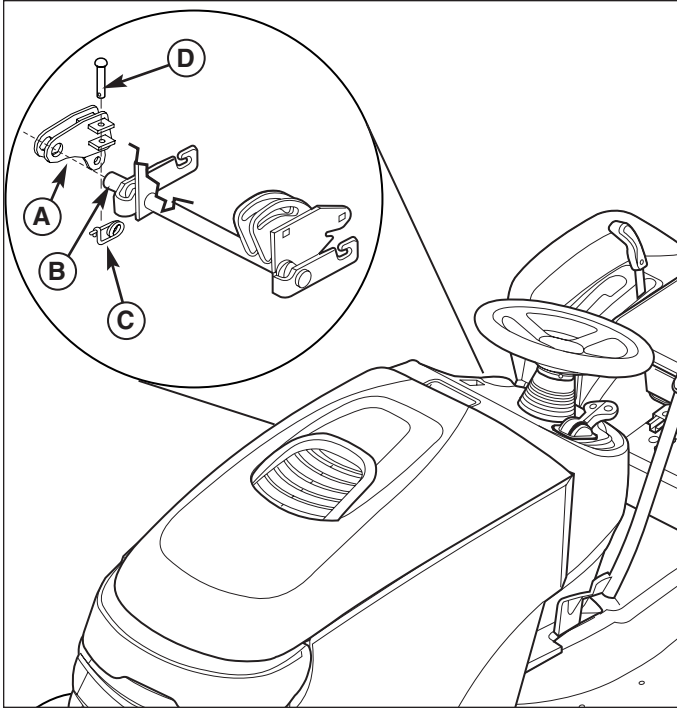
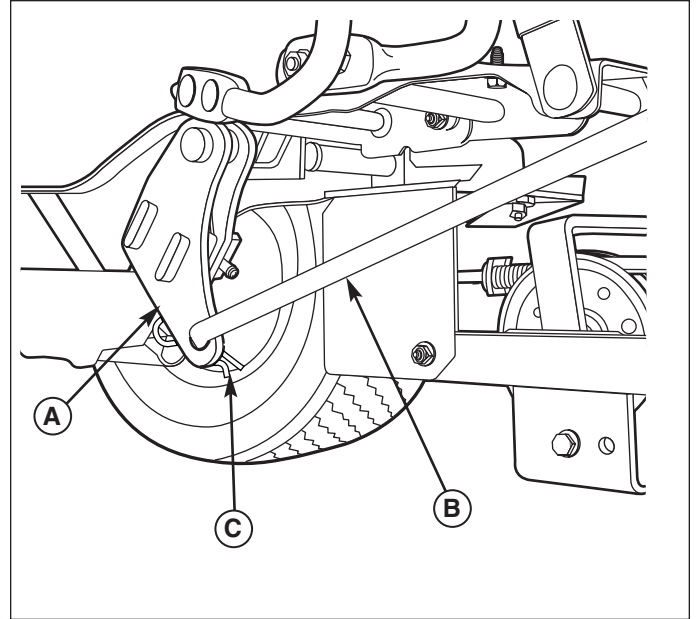
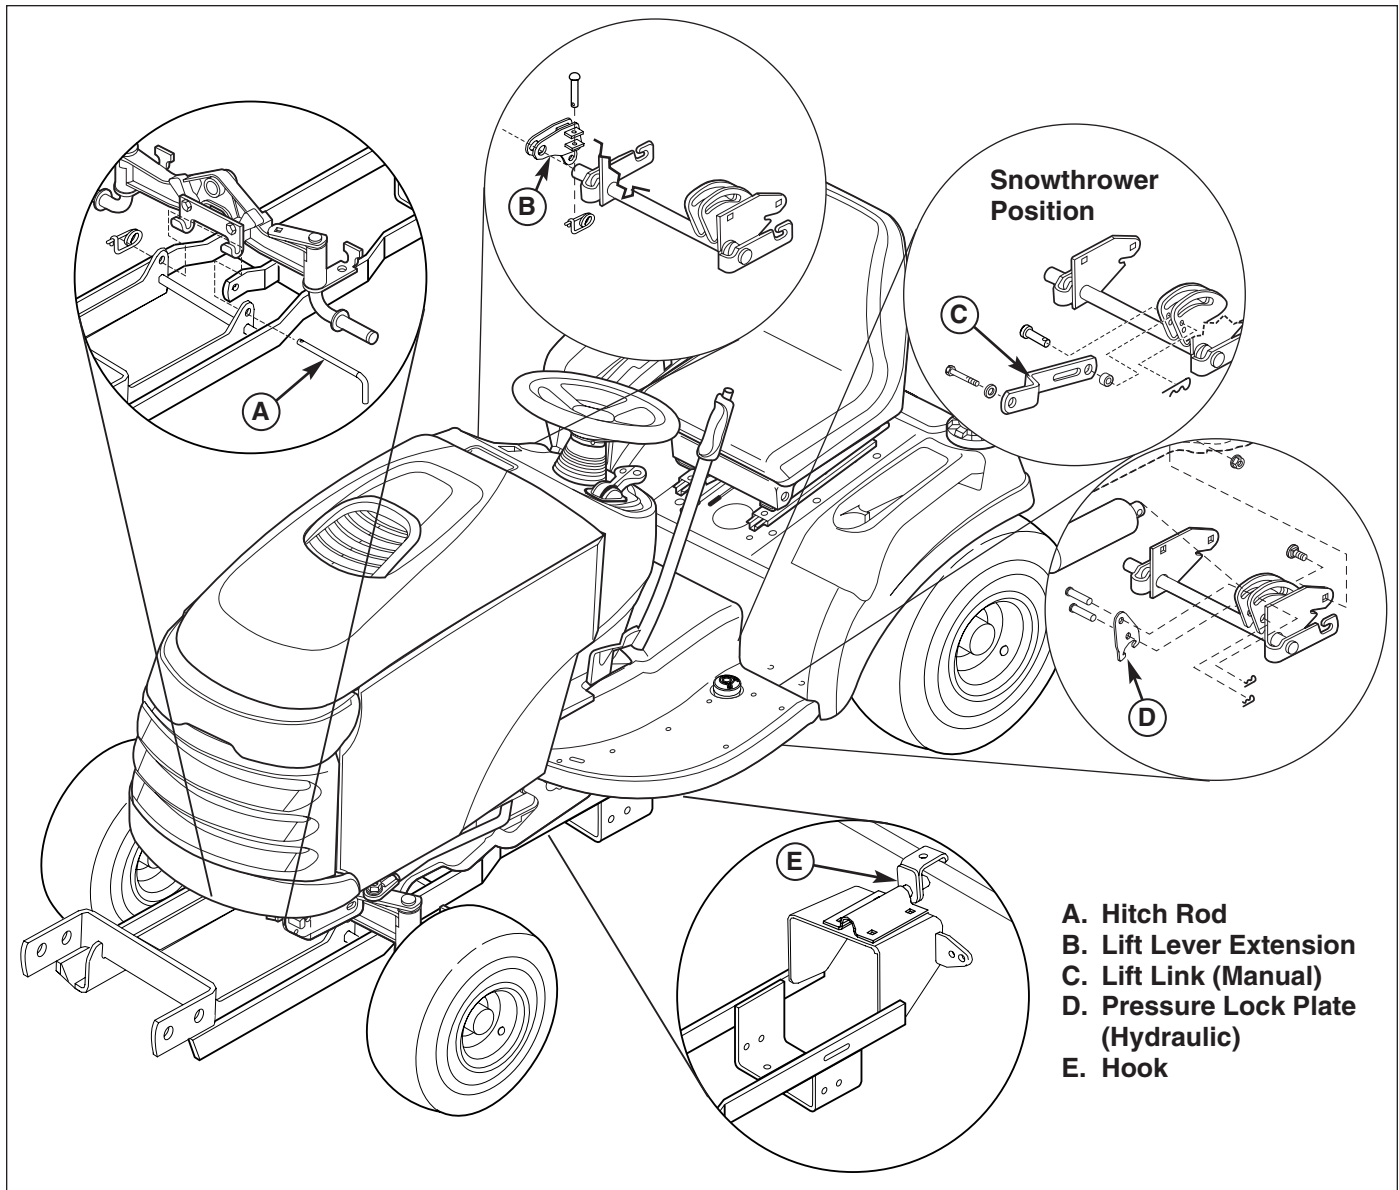

Figure 9. Install Lift Lever
Figure 10. Install Lift Rod - All Models
Figure 12. Normal Installation & Removal
1. Slide the lift lever (A, Figure 9) onto the end of the tractor lift shaft (B) under the right side footrest.
2. Use the tabs on the lift lever (A) to capture the tractor lift arm. Secure in place with a clevis pin (D) and safety clip (C).
3. Insert the rear of the lift rod (B, Figure 10) into the bottom of the lift lever (A). Secure with a clip (C).
1. Disconnect the lift rod from the attachment and lift lever extension (B, Figure 12).
2. Remove the clevis pin and clip from the lift lever (B) and remove the lift lever.
3. Remove the front hitch rod (A). Remove the hitch and hook (E).
4. Remove the lock plate (D) OR reposition the lift link (C) in mowing position.
1. Insert the hook (E, Figure 12) into the back of the hitch. Mount the rear of the hitch on the lift cross-shaft.
2. Secure the front of the hitch to the J-hooks using the hitch rod (A).
3. Install the downward pressure lock plate (D) OR place the lift link (C) in snowthrower position.
4. Install the lift lever extension (B).
5. Install the lift rod and attachment (Figure 9).